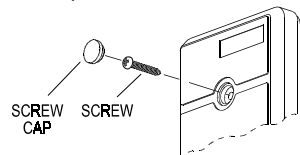

Figure 4. Front cover Assembly
- A. Remove the screw and the front cover (see Fig. 4). The round plastic cap is supplied separately in a small nylon bag.
- A. Position the front cover hole over the LED. Secure the front cover with the screw and mount the plastic cap (see Figure 4).